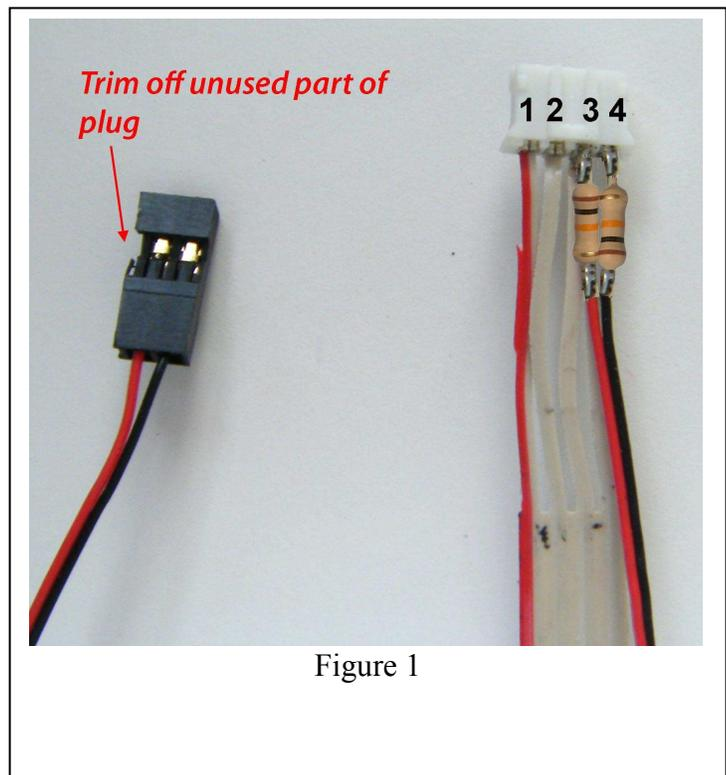
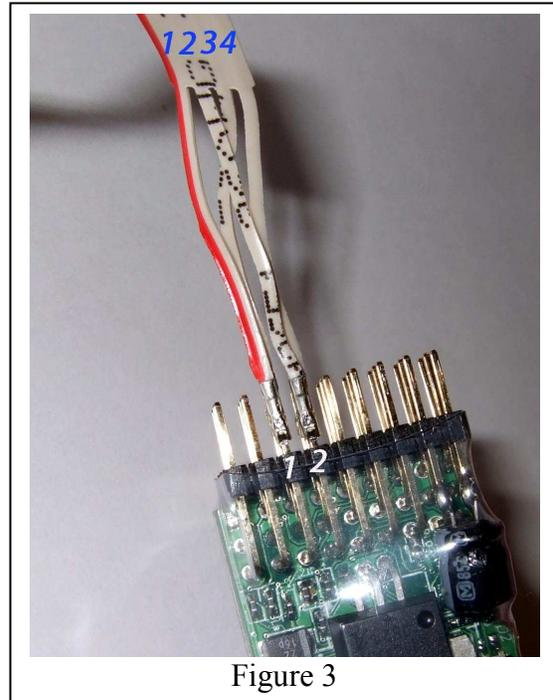
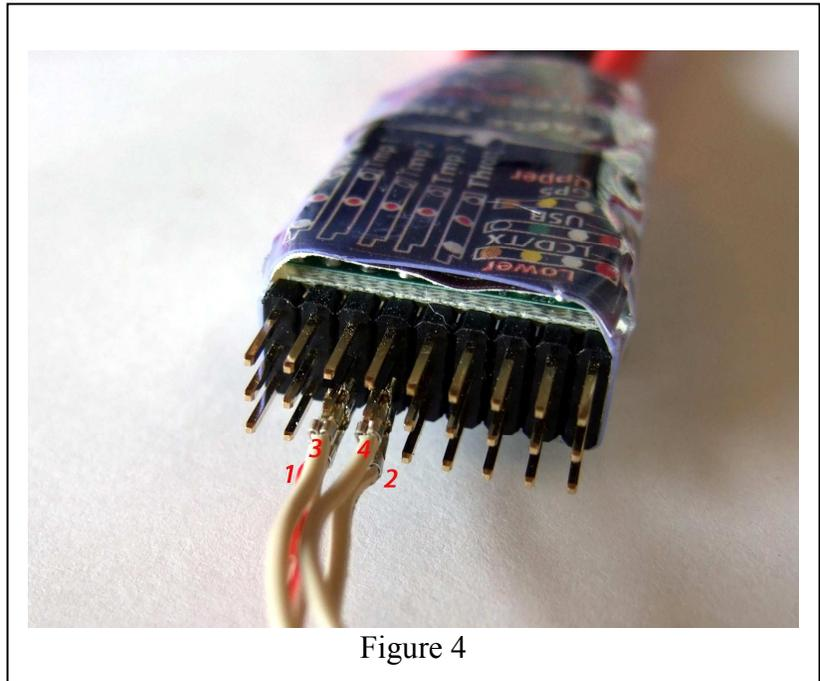

Figure 1
Figure 3
Figure 4
b) To convert the cable into a 2 wire cable, cut off the unused part (where the signal line would normally connect), as shown in Figure 1 below. Remove the orange or white signal wire, leaving only two wires (black/brown and red wires).
shown in Figure 1. Note which wires are spliced, in relation to the polarization of the CPD-4 connector. Do not rely on the red stripe on the CPD-4 connector for polarity, since this stripe's location varies among CPD-4 cables!
Note that the splice can be done anywhere along the length of the CPD-4 cable that is convenient. Figure 1 shows the resistors soldered to the end of the CPD-4 cable, since there was exposed metal there already.
c) The wires on the ribbon cable are numbered from “1” to “4” on Figure 3. Note that these numbers correspond with the numbers shown in Figure 1. Note: don’t assume the red wire on the CPD-4 harness is wire number “1.” Refer to the polarity of the CPD-4 connector in Figure 1 to determine which wire is wire 1.
Figure 3 and Figure 4 show how to connect these numbered wires to the eLogger. Note: the photos do not have the wire harness pins insulated, for clarity. But, you must do so!